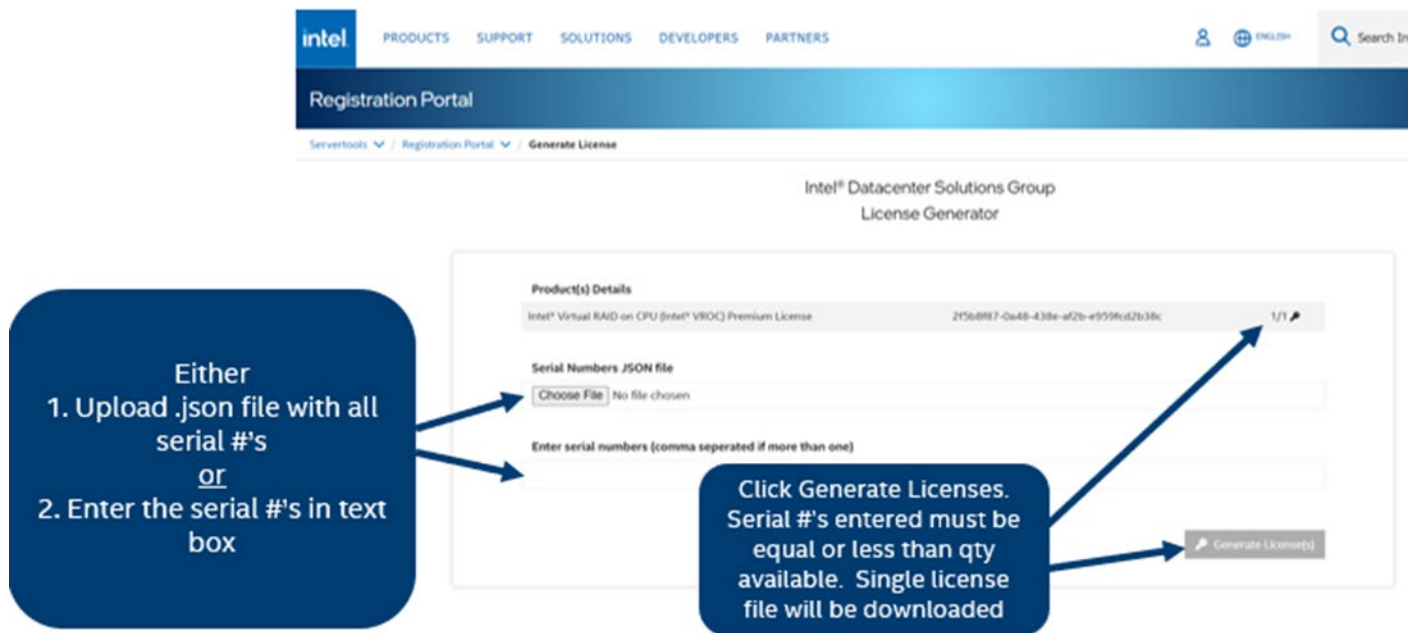

Figure 74. Download Key
- Multiple board serial numbers can be entered in the text box or by uploading a .JSON file with the list. Only a single license file will be downloaded. This single license file will work with all systems that match one of the serial numbers. (see Figure 74)